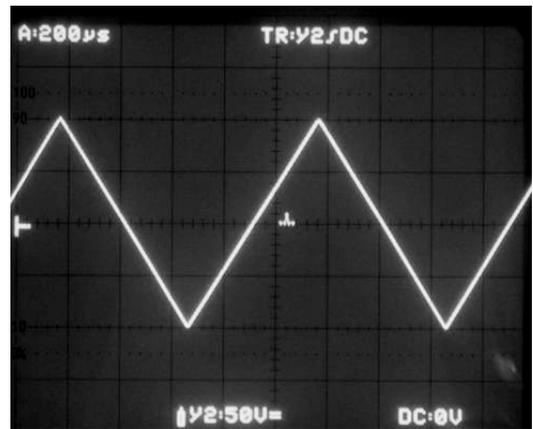

Figure 9. Triangle wave 200V_{pp} 1kHz
- Triangle and sine response (Fig. 9, 10)